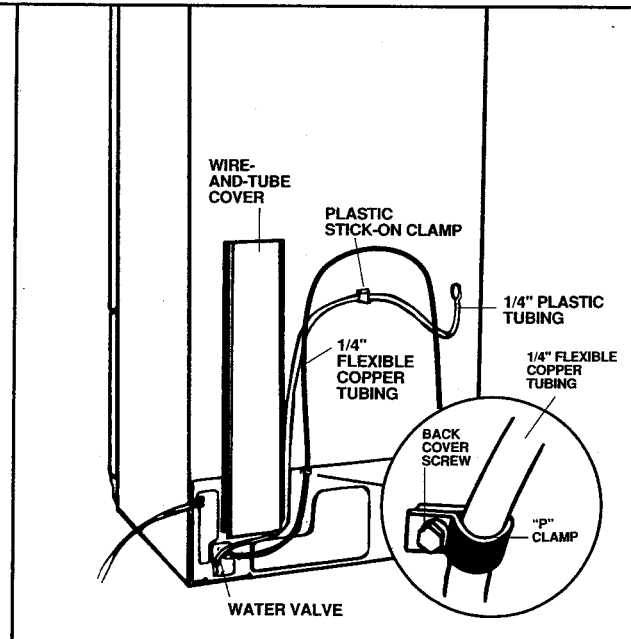

Figure 24
- h. Re-install the vertical wire-and-tube cover on exterior rear surface of the cabinet. To avoid pinching wires, carefully tuck the wires inside the cover. Secure the cover by reusing *all* original screws. See Figure 24.
Secure the 1/4-inch flexible copper tubing with the "P" clamp at the back horizontal cover, using the existing cover screw. See Figure 24.
- j. Secure the 1/4-inch flexible plastic tubing to the rear wall of the refrigerator cabinet using the plastic stick-on clamp. See Figure 24.